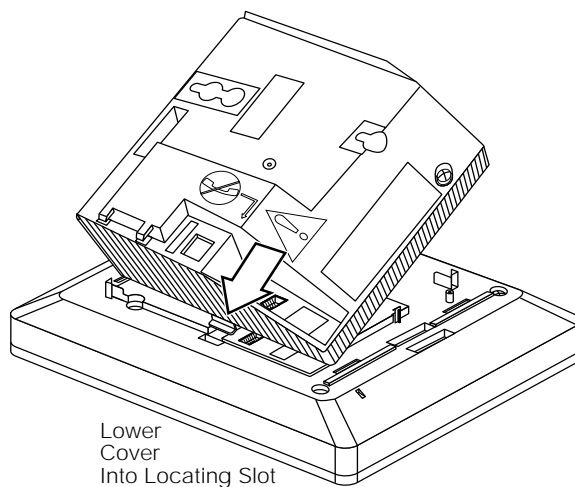
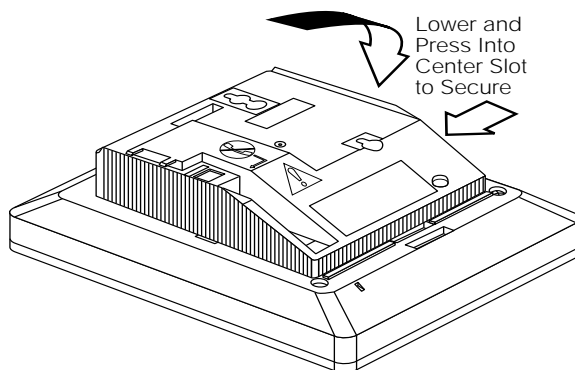
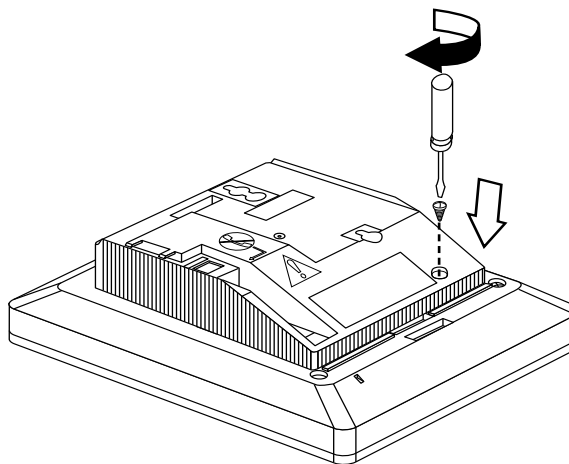

Figure 3-12. Placing the Module Cover into the Locating Slot
Figure 3-13. Lowering and Locking the Module Cover
Figure 3-14. Replacing and Tightening the Module Cover Screw
- ▶ 8. To replace the module cover, see Figure 3-12, Figure 3-13, and Figure 3-14.